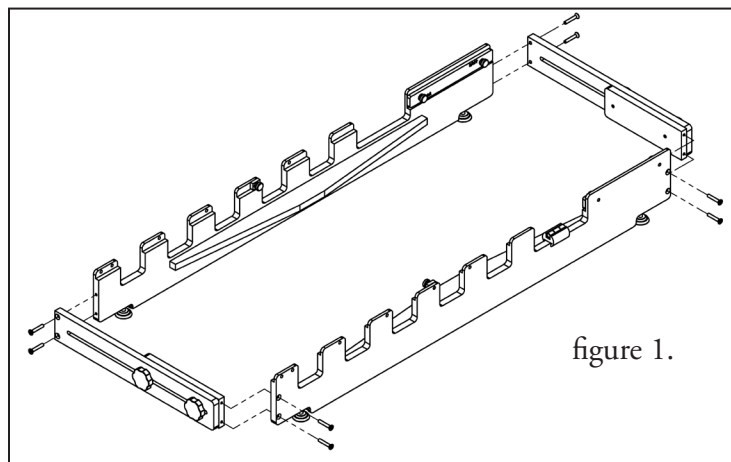

figure 1.
2. Using a phillip's head screwdriver screw cross bars into side panels with the 8 flathead screws as shown in figure 1.